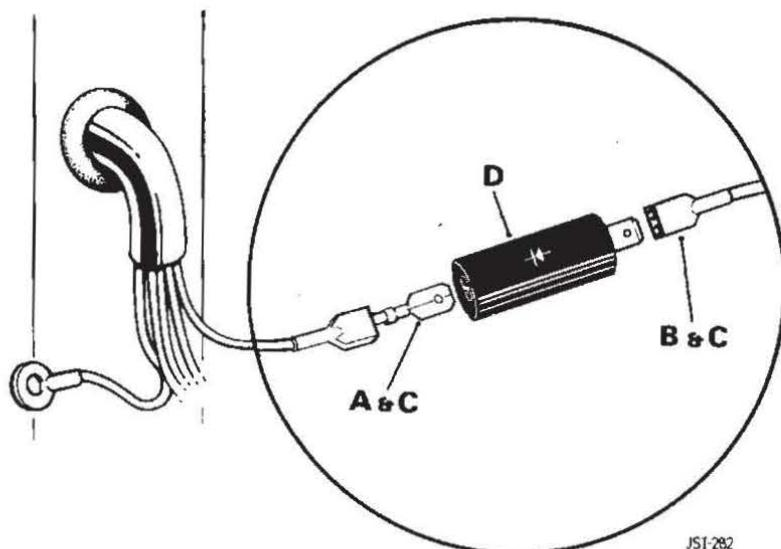

FIG. 2
3. Locate the interior door switch purple/white (PW) cable and cut.
4. Fit insulations sleeves (C, Fig. 2) and crimp/solder Lucas connector (A and B, Fig. 2), to the purple/white (PW) cable. Connect diode unit (D, Fig. 2) in circuit and strap or tape to the harness.